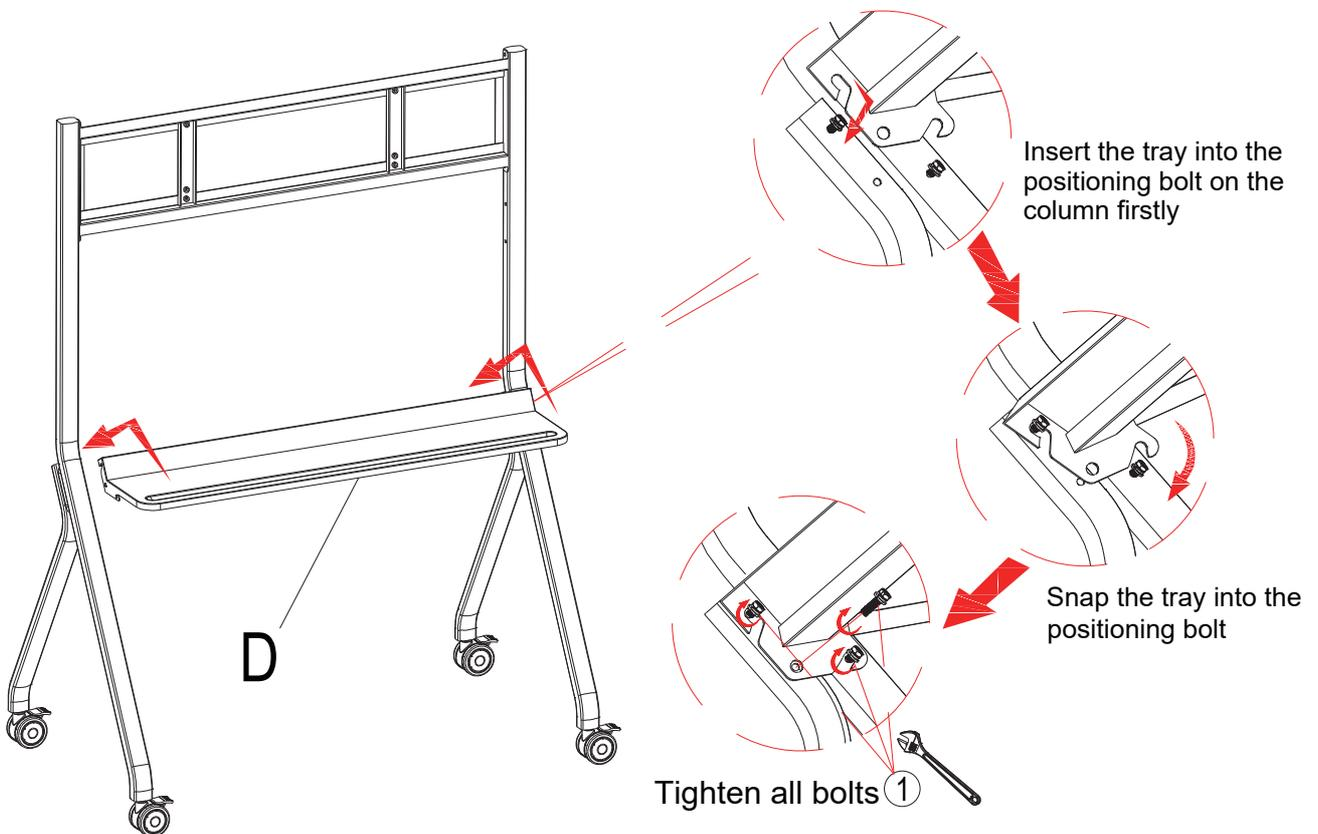

Figure 4
Step 4: Assemble the tray between the two columns (Figure 4).